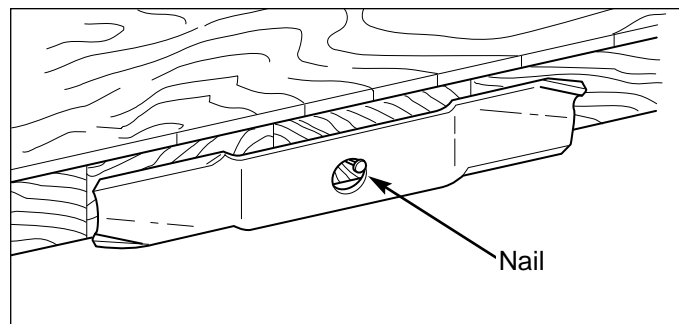

Figure 22. Balancing The Blade
4. Balance the blade as shown in Figure 22. Center the blade's hole on a nail lubricated with a drop of oil. A balanced blade will remain level.